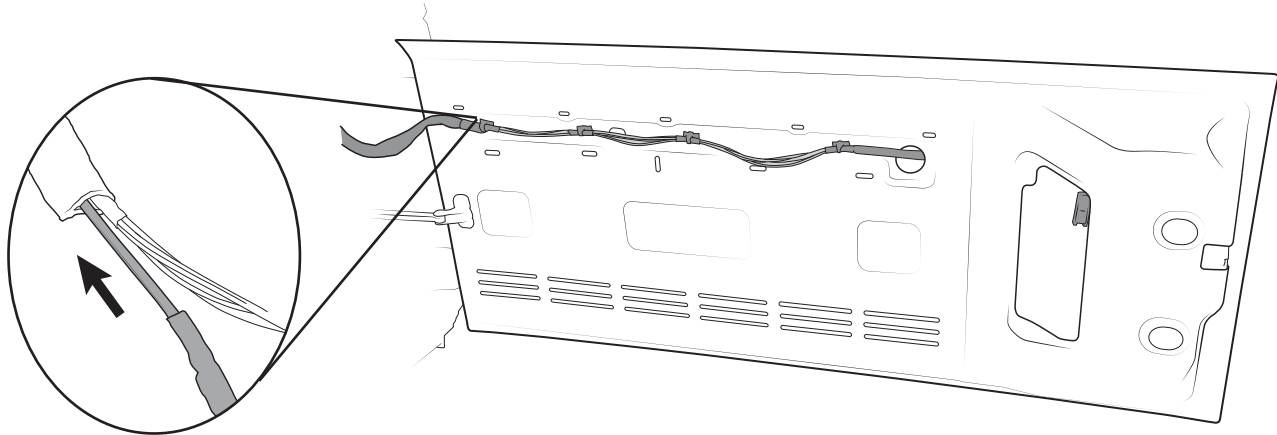

Figure 6
1. Route the camera wiring harness A (see diagram pg 1) through the tailgate (fig. 6) following the factory wiring through the protective sleeve and down to the passenger-side floor.